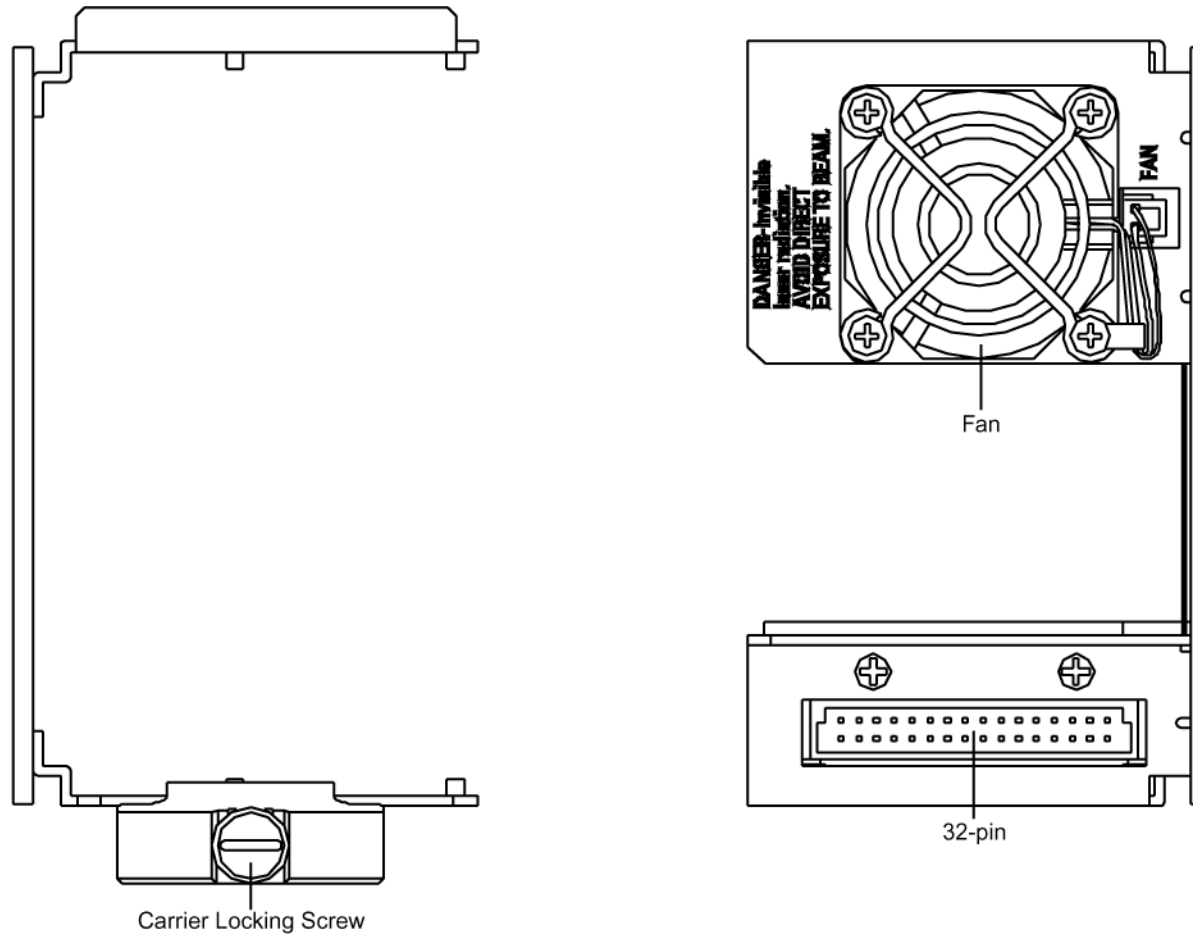

Figure 2-1. HMC 4001 module carrier front and rear panel features
The PWL 4100S transmitter module plugs into the HMC 4001 module carrier, shown in Figure 2-1 on page 2-2. The transmitter module is held in the carrier by a spring-loaded tab on the front handle of the carrier. You can place the HMC 4001 carrier into any desired position in the HLP 4200 platform.
3. Lock the carrier into position with the carrier locking screw, shown in Figure 2-1.